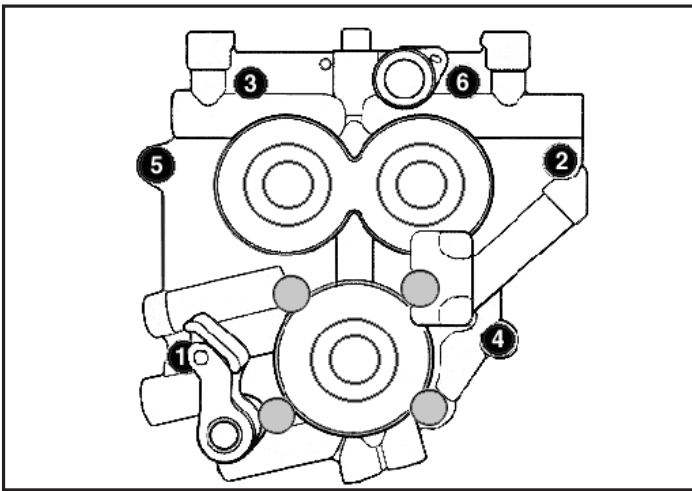

Figure 2
13. Following sequence shown in **Figure 2**, alternately loosen and remove cam support plate bolts.
21. Loosely install support plate screws with a drop of blue thread locker Alternately tighten screws to 95 in-lbs. torque following sequence shown. See **Figure 2 on Page 4**.
Support plate screws that pass through alignment dowels (See positions 1 & 2 in Figure 2) can be easily stripped. Do not exceed torque recommendation.